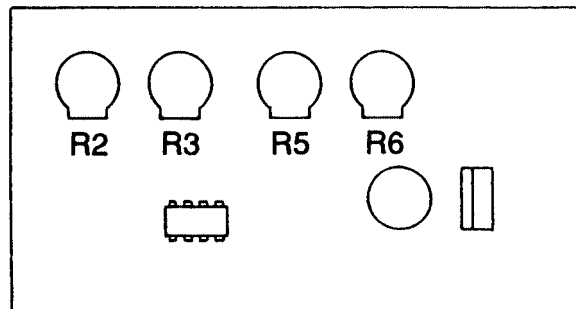

Figure 4
2. Adjust R5 (see Figure 4) on the XP-800 PC board for 30.0 volts on the XP-800 voltmeter.